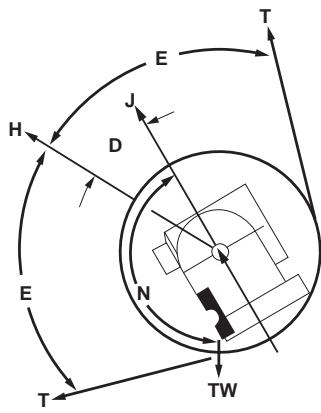
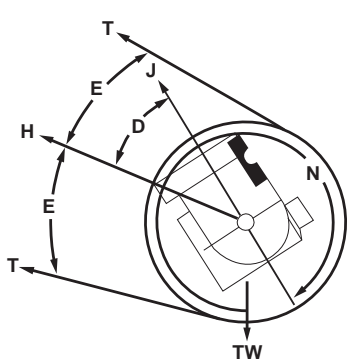

Figure 6A
Figure 7A
The resultant tare is minimized by mounting the Tensioncell so that (N) is  $149^\circ$  (See Figures 6A and 6B) or so that (N) is  $329^\circ$  (See Figures 7A and 7B).